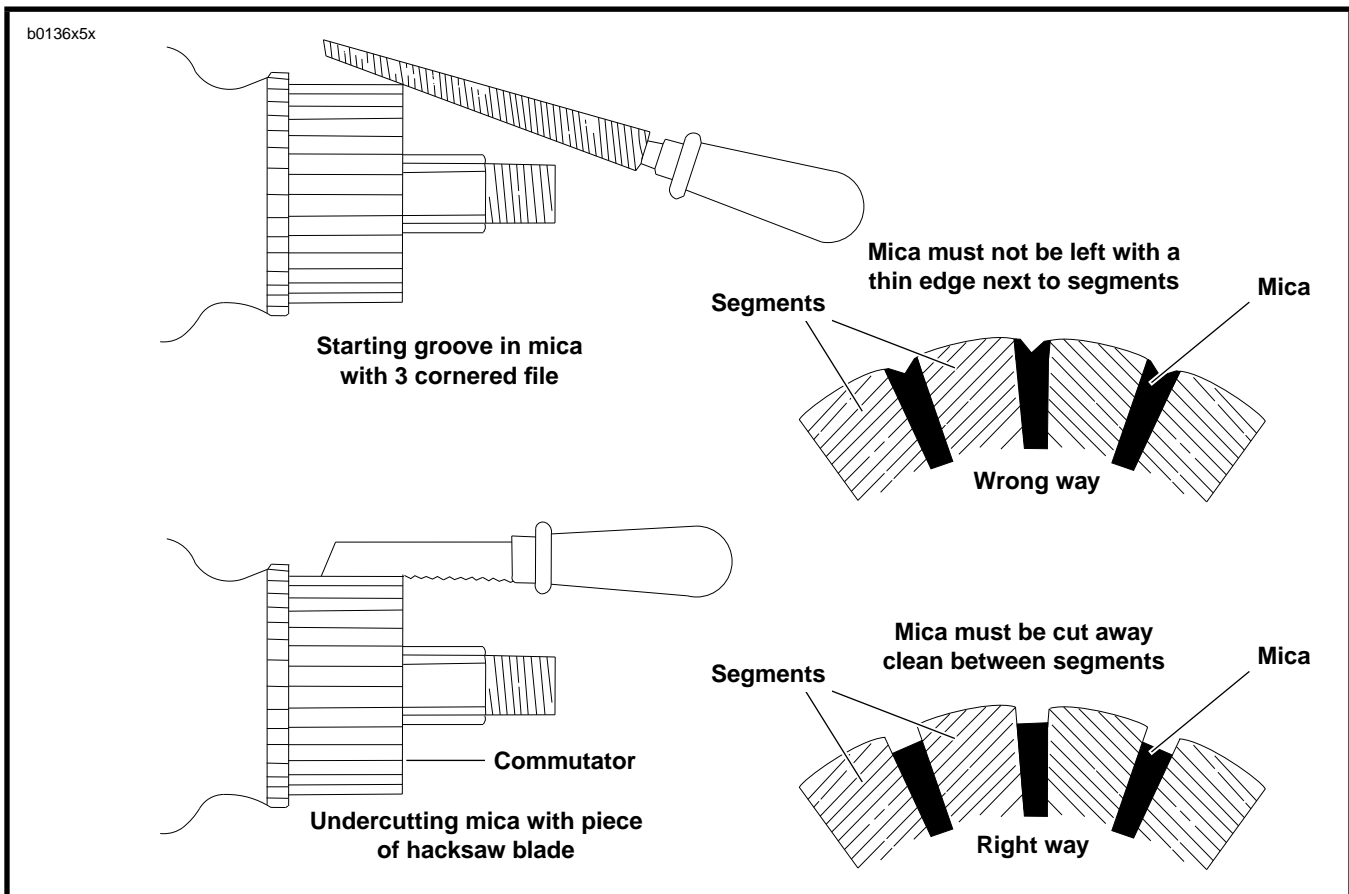

Figure 5-16. Undercutting Mica Separators
8. Check depth of mica on commutator. If undercut is less than 0.008 in. (0.20 mm), use an undercutting machine to undercut the mica to 1/32 in. (0.79 mm) deep. The slots should then be cleaned to remove any dirt or copper dust. See Figure 5-16. If an undercutting machine is not available, undercutting can be done satisfactorily using a thin hacksaw blade. After undercutting, lightly sand the commutator with crocus cloth to remove any burrs.